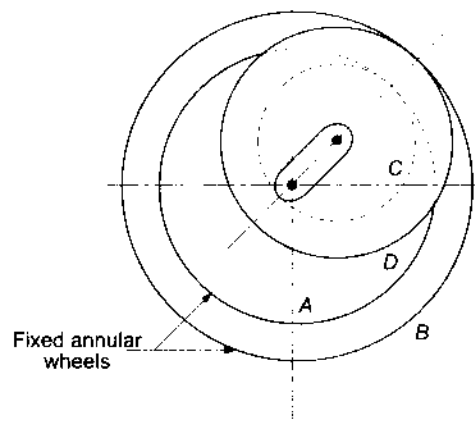

Fig.12.31 Mechanism for recording the distance covered by a bicycle
- 10 A mechanism for recording the distance covered by the bicycle, as shown in Fig.12.31, is as follows: